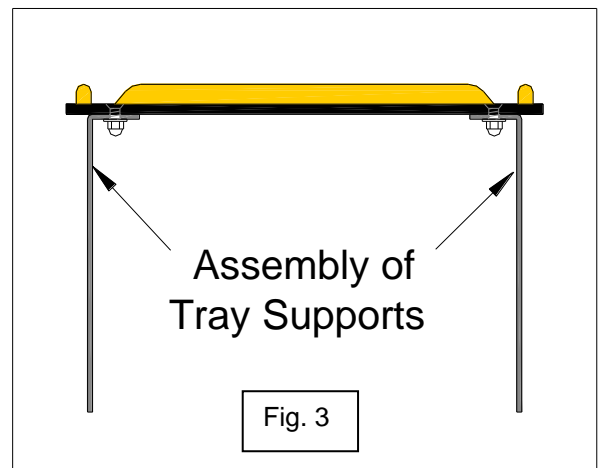

Fig. 3
- Using the M6 Screws, Washers and Nuts provided, loosely attach the Tray Supports to the underside of the Tray utilising the pre-drilled holes in the Tray. **DO NOT** fully tighten the Nuts at this stage, as depth adjustment will be required to suit the user. (Fig. 3)